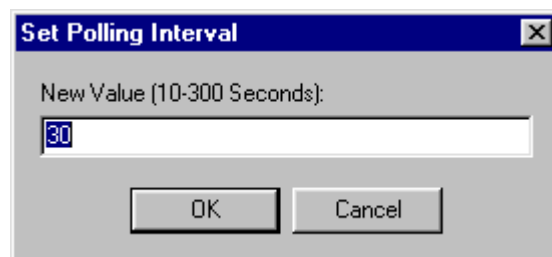

Figure 11-4
- Choose **File > Set Poll Interval**, Figure 11-4. The CP Gateway polls for new instrument data to transmit to VistA. You can adjust the number of seconds between polling operations. Enter a value from 10 to 300 seconds. The new value becomes effective after the next polling operation so it may take up to 5 minutes for the new value to be used.